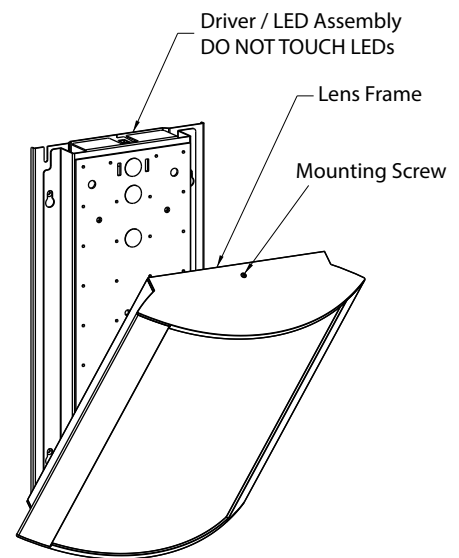

FIG.5
1. Align **Lens Frame** over the **Driver/LED Assembly** with the Phillips head **Mounting Screw** at the top. See **Figure 5**.
2. Inset the **Lens Frame** from the bottom with the bottom flush against the wall. See **Figure 5**.